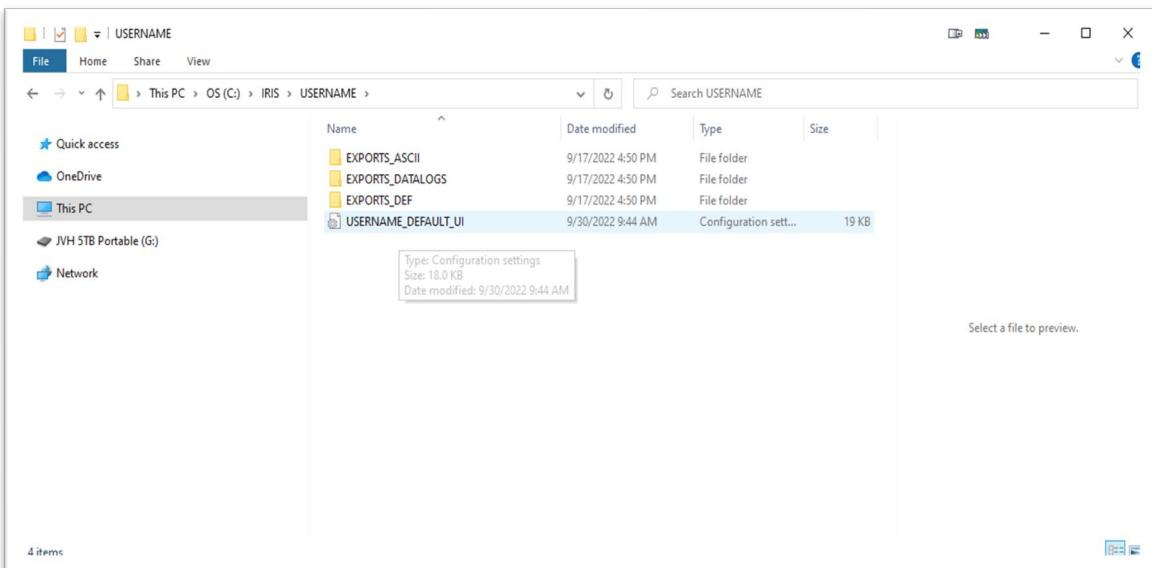

Figure 2. iRIS subfolder creation
4. The installer will create the subfolders. *See Figure 2*: